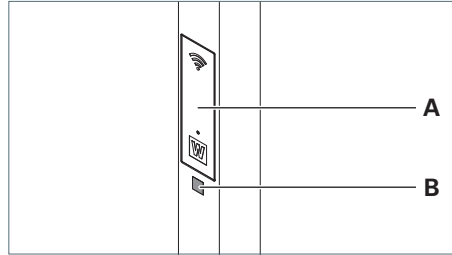

Fig. 36: Scanning QR code.
- Scan the QR code **B** of the luminaire which is located underneath the service flap **A** on the column, see Fig. 36.